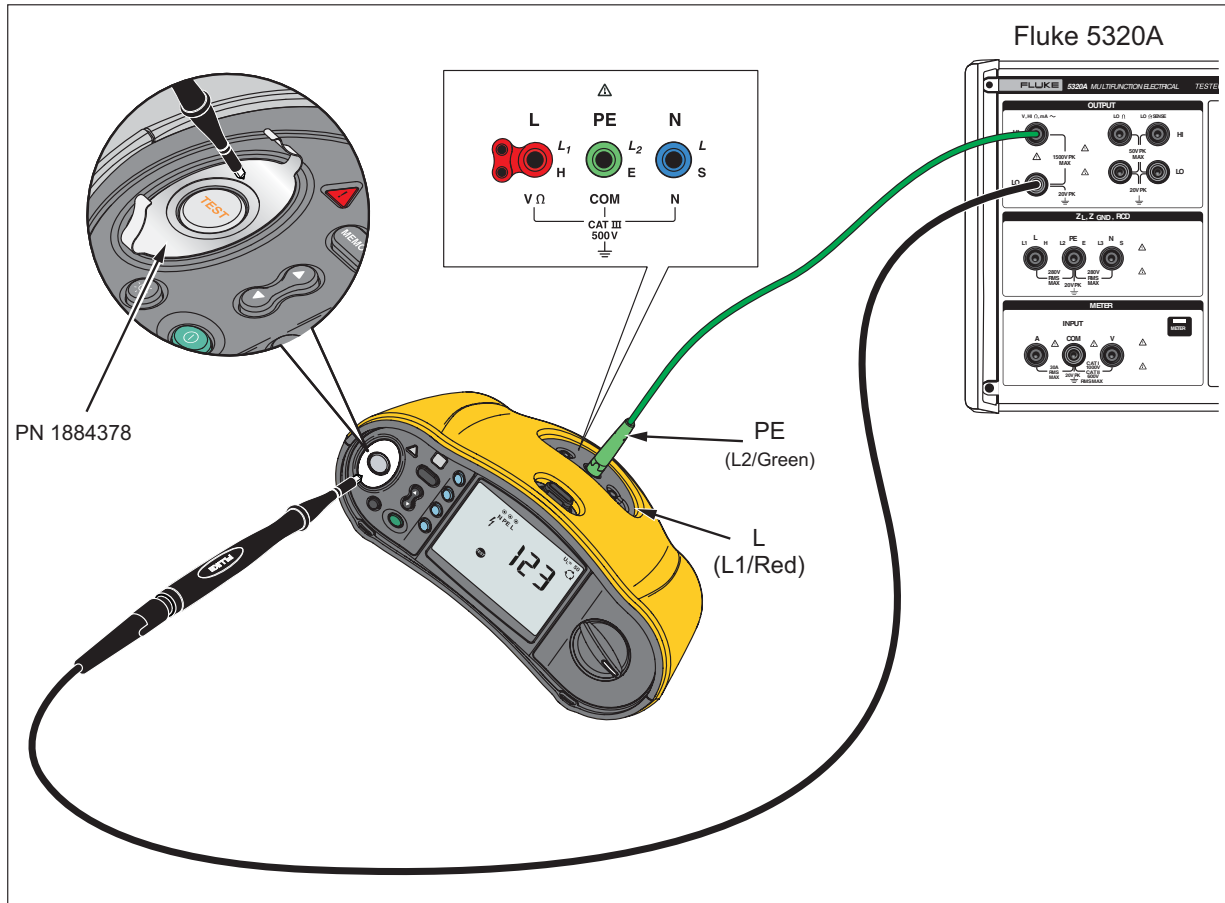

Figure 3. Touch Pad Sense Test
The Touch Pad measures the potential between the operator and the PE input jack. If the potential exceeds 100 V, the  (Warning) symbol illuminates. Do this test to verify that the Touch Pad circuit works properly (see Figure 3):
4. Place a Touch Plate (PN 1884378) onto the Touch Pad and touch with the probe as shown in Figure 3.